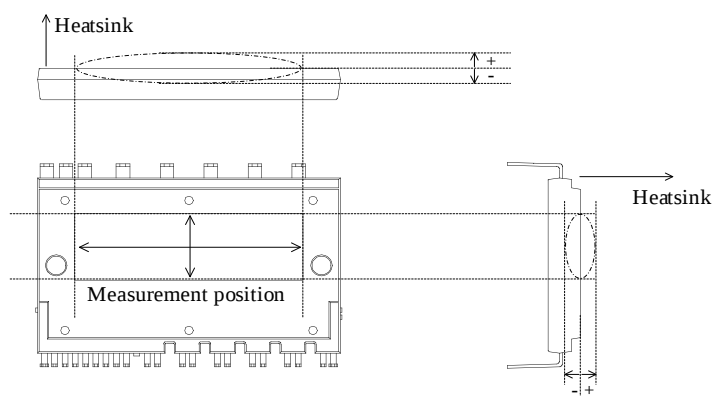

Figure 5-1. Flatness Measurement Position
| Flatness of Heatsink Attachment Area (1) | See Figure 5-1. | 0    | —    | 100  | μm     |